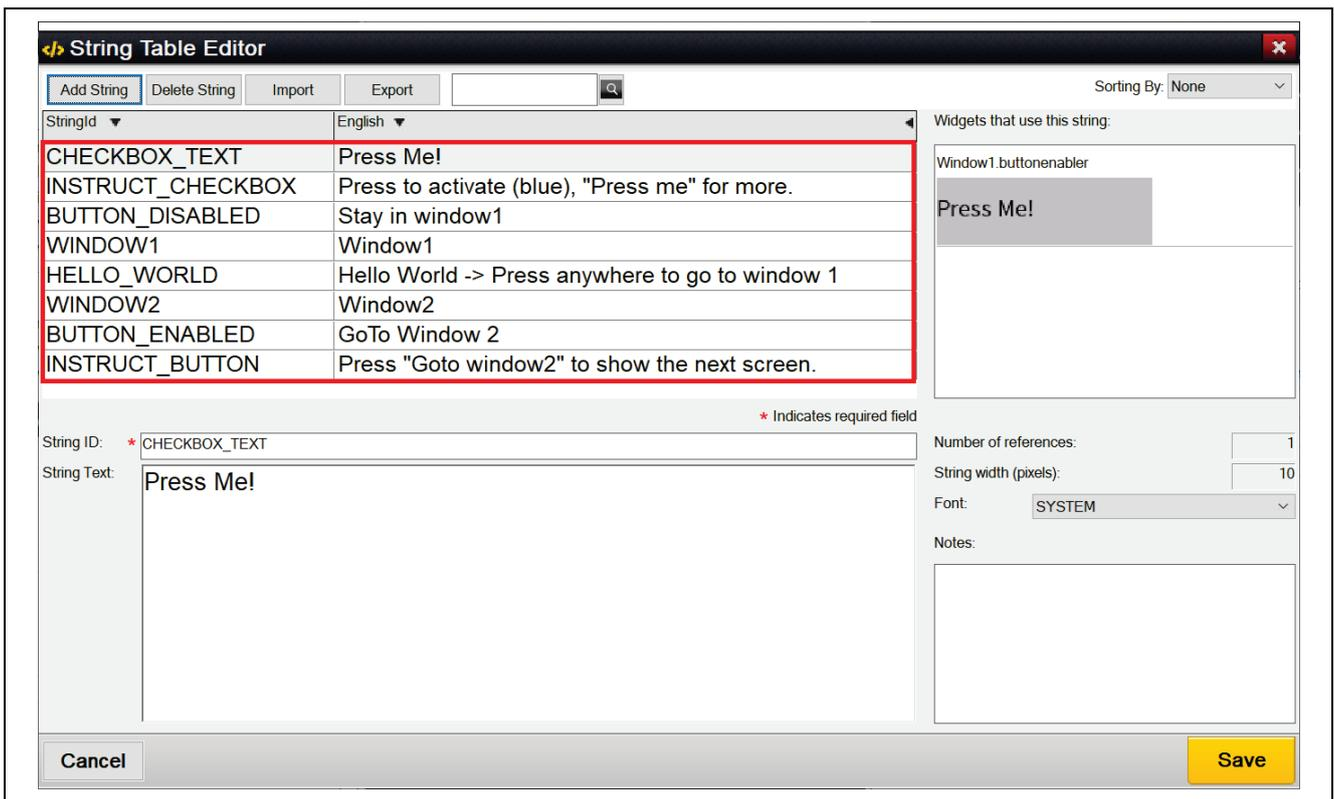

Figure 49. All Strings
10. Continue to click **Add String**, and edit each new entry's corresponding **String ID** and **String Text** until the table appears like **Figure 49**. Then click the **Save** button.